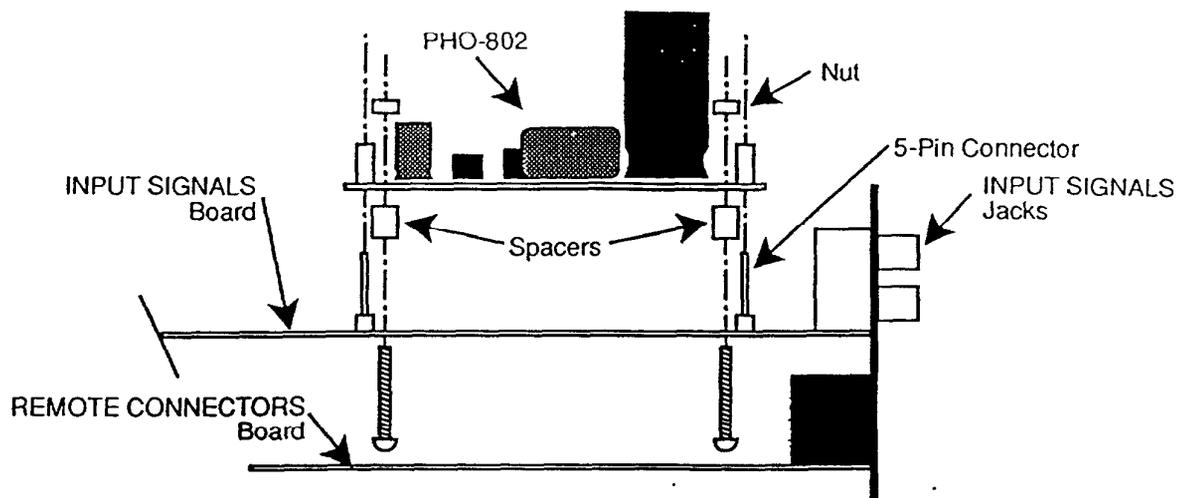

Figure 2. Placement of Optional PHO-802 Phono Preamp Board on INPUT SIGNALS/REMOTE CONNECTORS Assembly
5. Position the PHO-802 Phono Preamp Board over the two 5-pin connectors so that the large upright capacitors (16V, 2200 μ F) are positioned as indicated in figure 2, toward the back end of the INPUT SIGNALS board (the end with the output connectors). Slide it carefully down onto the pins, but do not fully seat it. Install the two spacers, screws and nuts provided. The spacers are essential to prevent shorting between the phono preamp and the main INPUT SIGNALS board. Check to be sure that sufficient clearance exists between the Phono Preamp Board and the INPUT SIGNALS board, with particular attention to the previously cut jumper wires.